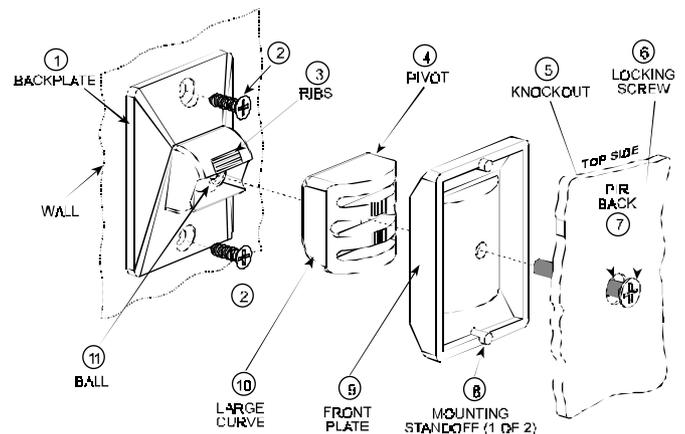
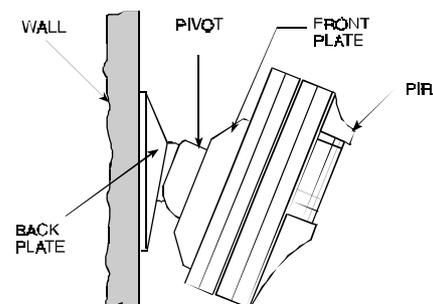

Figure 1. BR-1 - Construction and Assembly
Figure 2. PIR and Adjustable Bracket Installed
3.1 Installing the BR-1 (Figures 1 & 2)
- Disassemble the bracket by releasing the locking screw (6).
- Position the backplate (1) on the wall in the desired location. Using the backplate, mark the two screw holes to be drilled.
- Drill the two holes where marked and securely fix the backplate to the wall with the furnished pan-head screws and anchors. Be careful to position the **ribs** (3) upward.
- If required, center the backplate ball (11). With your fingers, insert the locking screw (6) into the backplate ball and shift the ball until the hole faces exactly forward. Remove the screw.
- Punch out the screw hole knockout (5) in the PIR's back (7).
- Hold the PIR's back with the top side facing up. Insert the front plate mounting standoffs (8) into the holes in the PIR back.
- Mount the pivot (4) onto the front plate, taking care to position the large curve (10) downward.
- Insert the locking screw (6) into the hole in the PIR's back (7), through the front plate (9) and pivot (4), and into the backplate ball (11). Turn the screw down **but do not yet secure it tightly**.
- Reassemble the PIR and walk test in accordance with the installation instructions (see figure 2).